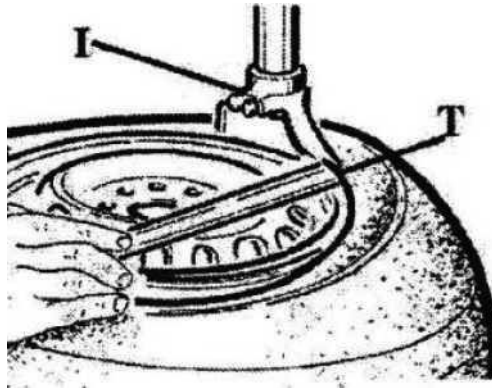

Figure 11
- ✧ As shown in Figure 11, insert into the crowbar (T) between the tire edge and the mounting head (I), make the tire edge hang on the disassembly head (I) outward, keep the crowbar (T) in this position, slam the pedal (Z) to make turntable (Y) rotates